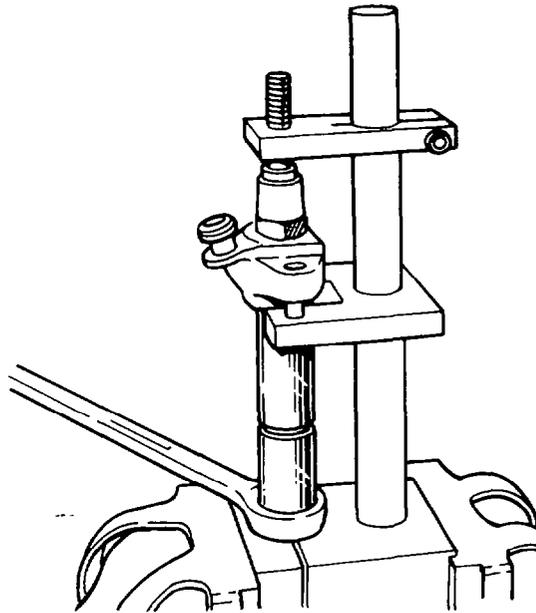

Fig. 126 — Disassembly Jig
- c. Place the nozzle and holder assembly in the disassembly jig TSE 77105 and slowly loosen the cap nut until it can be removed by hand see fig. 126.